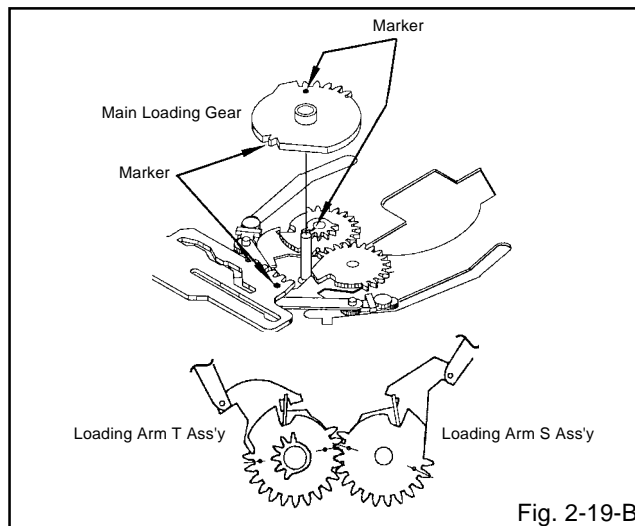

Fig. 2-19-B
2. When you install the Clutch Actuator, install as shown in the circle of Fig. 2-19-C. (Refer to Fig. 2-19-C)